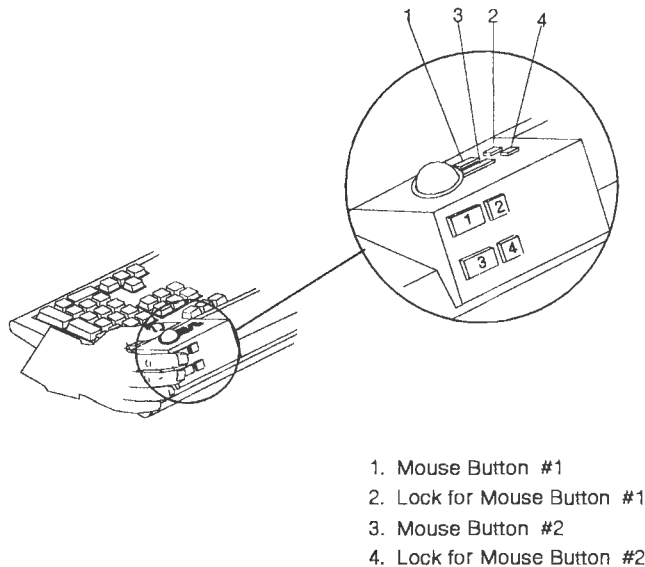

Figure 6.
1. The trackball shown in Figure 6 is used to position the pointer on the display and take actions by using the accompanying buttons.